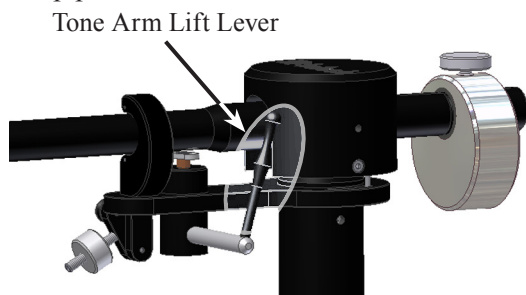

Figure 53
1. Push on the top part of the Tone Arm Lift Lever towards the rear of the turntable. Refer to figure 53.